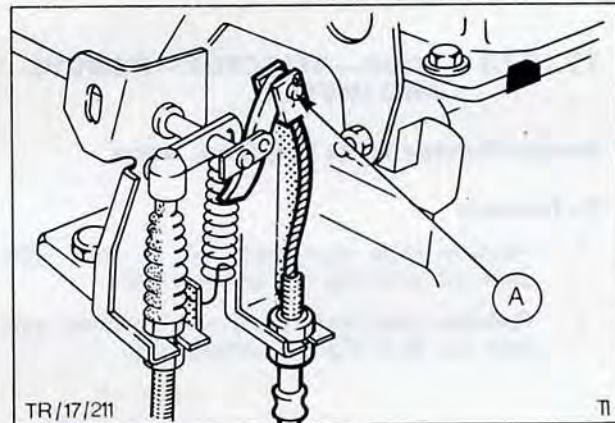

Fig. 14. Downshift cable connection at carburettor
2. Remove split pin and pin, 'A' in Fig. 14, disconnect end of downshift cable from carburettor linkage connecting lever.